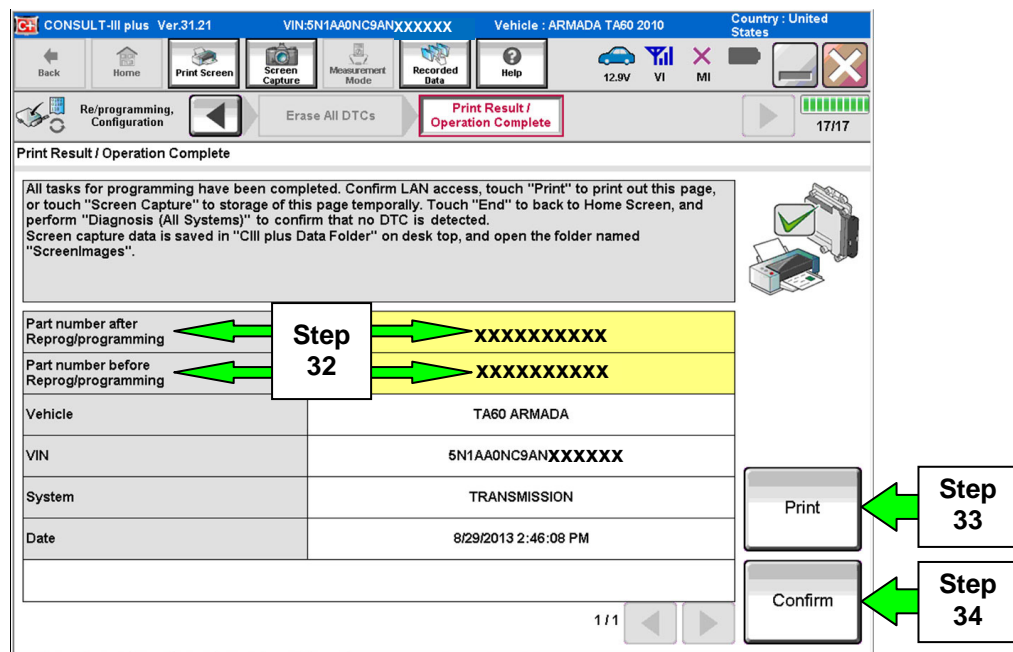

Figure 21
- When done, the screen in Figure 21 will appear.
33. Select **Print** to print a copy of this screen (Figure 21) and attach it to the repair order.